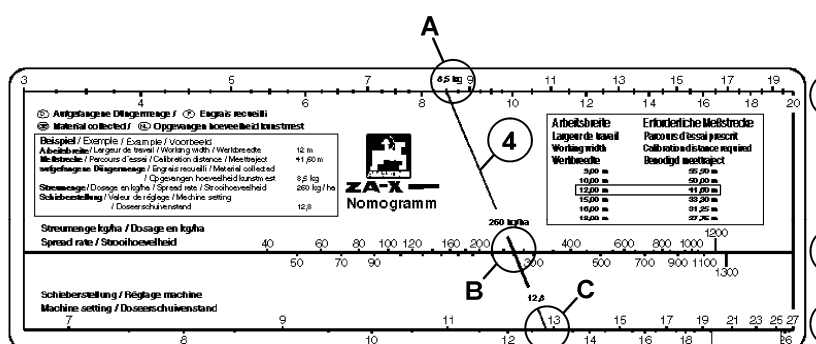

Fig. 62
- (1) An **upper scale** (Fig. 62/1) for the **quantity of fertiliser caught** during the spread rate check, between 7 and 44 lb or 3 and 20 kg.
- (2) A **middle scale** (Fig. 62/2) for the desired **spread rate** between 36 and 1160 lb/ac or 40 and 1300 kg/ha.
- (3) A **lower scale** (Fig. 62/3) for the **slider position** from 7 to 27.